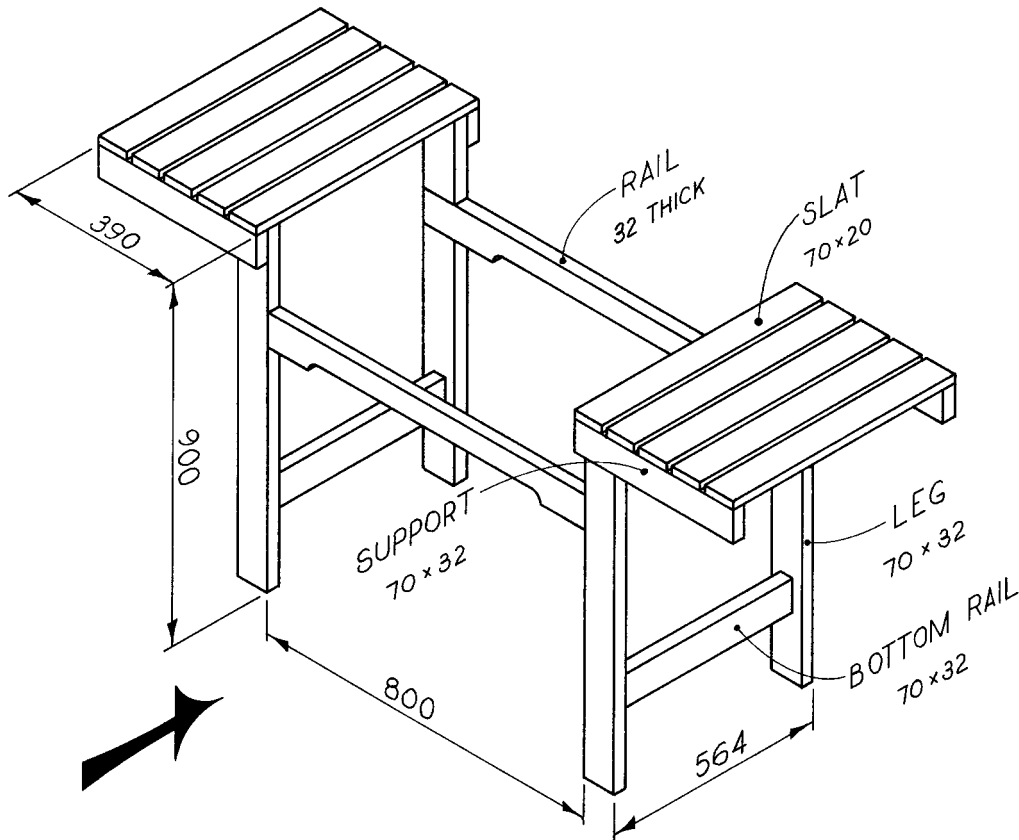
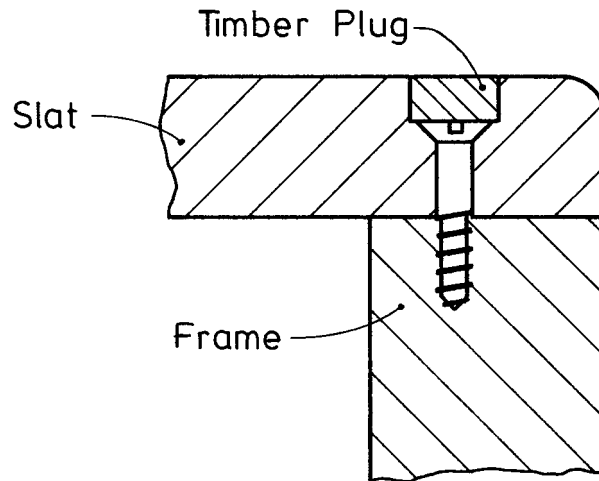

FIG. 1
FIG. 6
A barbecue trolley made from an Australian hardwood is shown in Figure 1. It is designed to accommodate a four-burner gas cooktop.
- (b) Using the sizes given in Figure 1 and a scale of 1 : 10, complete the front and top views of the barbecue trolley commenced in Figure 2 below.
- (c) Complete the following cutting list and costing of the basic frame shown in Figure 1. No allowances should be made for waste. The cost of 70 × 32 DAR hardwood is \$6.50 per metre.
- (e) Figure 6 shows detail of attaching the slats to the barbecue frame shown in Figure 1.
- (i) What is the purpose of using a timber plug as shown in Figure 6?
- (ii) Name the type of screw shown in Figure 6, and state a suitable size.